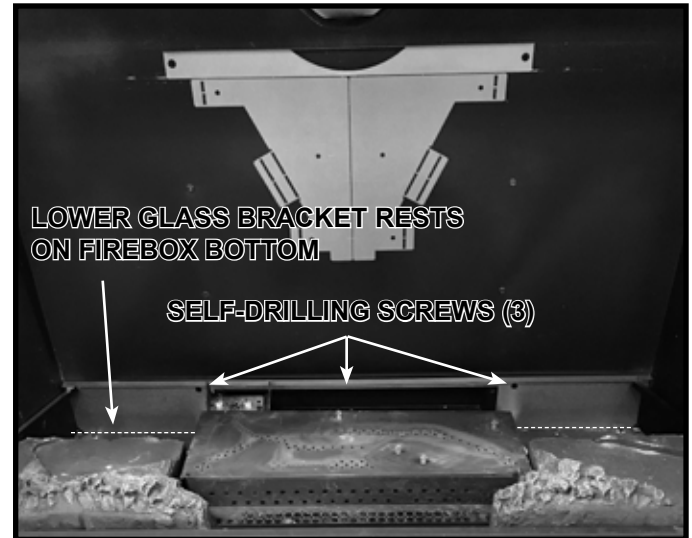
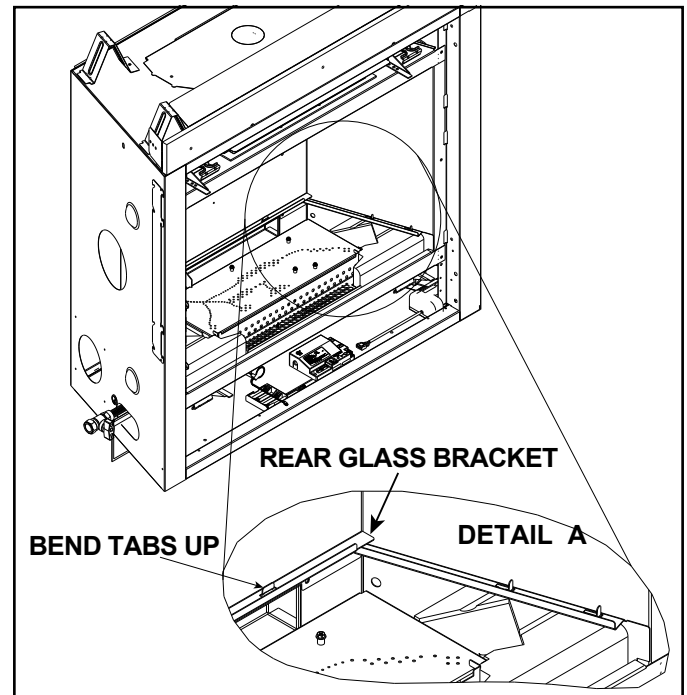

Figure 11.9 Rear Lower Glass Bracket Installed
Figure 11.10 Bend Tabs on Lower Side and Rear Glass Brackets
2. Remove the rear lower glass bracket from the back of the firebox by pulling forward on the top edge to break it free. See Figure 11.8. Bend the hand bend features "up" to about 45 degrees and install the rear lower glass bracket using the self drilling screws from the manual bag. The bracket must rest on the bottom of the firebox. See Figure 11.9 and Figure 11.10.
**Note:** The lower glass bracket spans the entire width of the back wall of the firebox and rests above the side lower glass brackets. See Figure 11.10, Detail A.